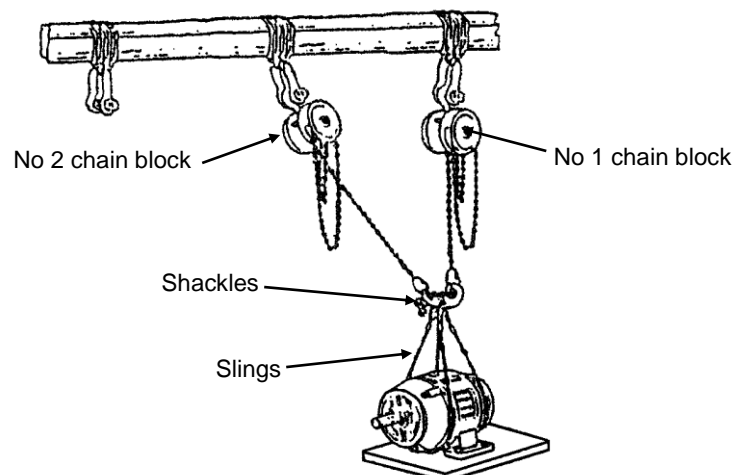

FIG 39.
I. Lift the load with No. 1 chain block and only take up the tension with No. 2 chain block. (Fig 39)